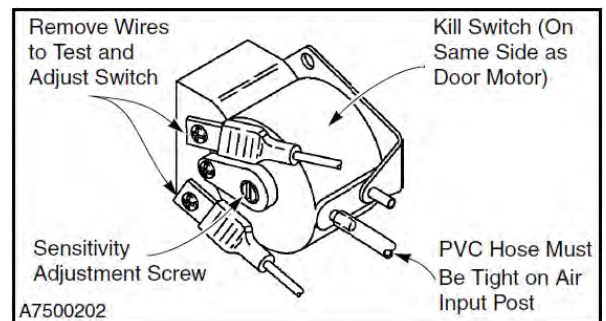

Figure 39
1. Remove the wires from the contact terminals and attach an ohmmeter across the two terminals. (See Figure 39)
2. To adjust the switch, turn the small adjusting screw, located on the face of the switch, clockwise or counterclockwise until continuity is achieved. Then turn the screw two turns clockwise for final adjustment. Ohmmeter should continue to show continuity. Turning the screw clockwise decreases sensitivity. Turning the screw counterclockwise increases sensitivity. (See Figure 39)